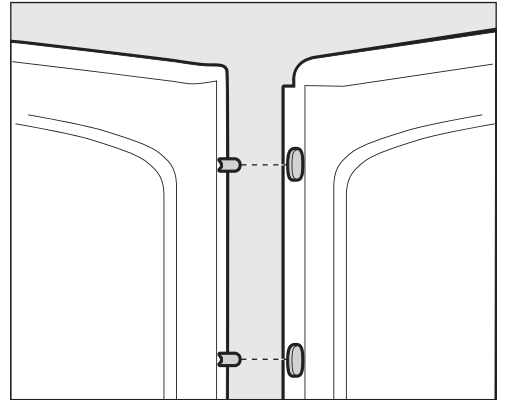

FIGURE 2. Align pins with slots on back wall.
- Place back panel first then fit side panels by aligning pins on side panels with slots on back panel. **(Fig. 2)**